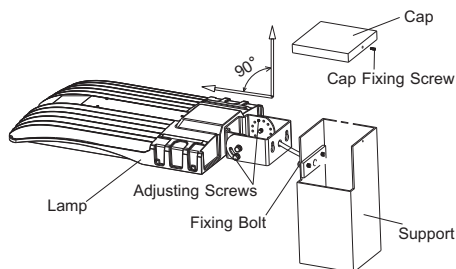

figure 2
1. Loosen cap fixing screw and take cap off. Loosen fixing bolt, fixed the fixture on the support and tighten fixing bolts. (figure 2)
2. Let the AC wire go through support hole and connected correctly. Close cap and tighten cap fixing screw after AC cable is well placed in the support. (figure 2)
3. Loosen adjusting screws, align the fixture to required angle and fasten the screws. (figure 2)